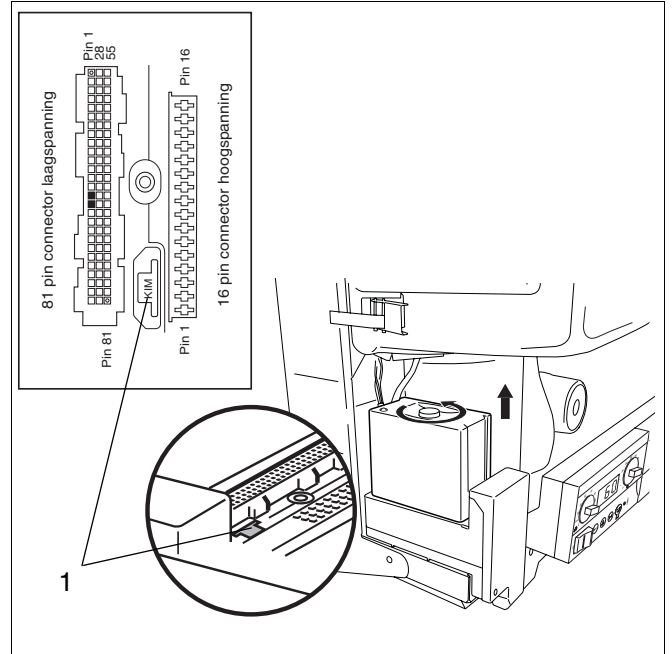

fig. 105 KIM connections
- Check if 4 pin connector (→ fig. 105, item 1) is fitted and secure.